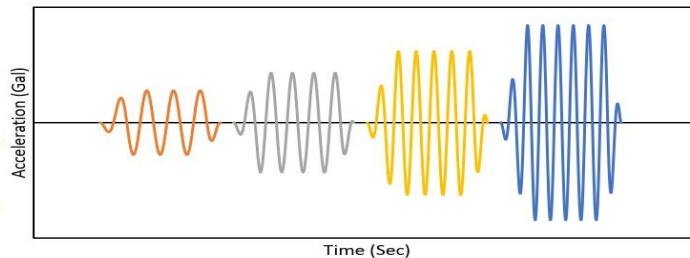

Fig: 6.1
- Uniaxial shaking load of variable intensity (as shown in the following Figure 6.1) will be applied to the models during final test.